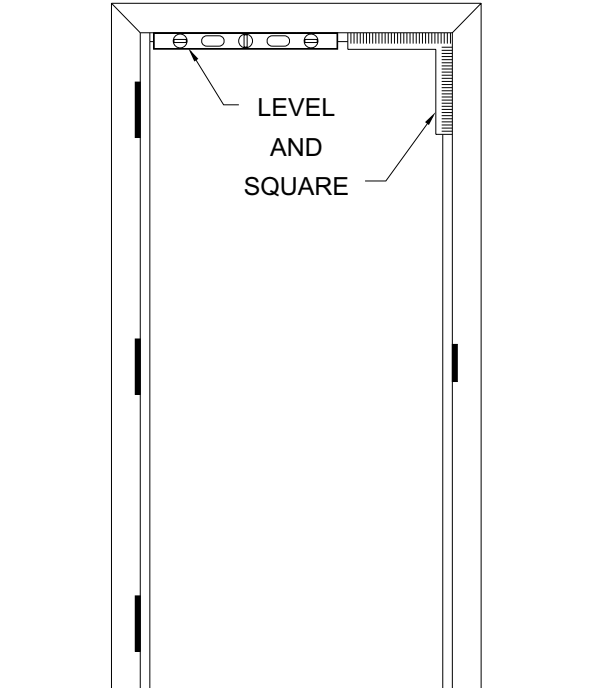

Figure 23 – Level and square frame
2. Level and square frame. See figure 23.